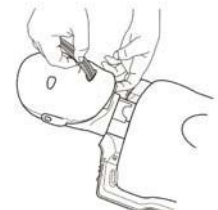

Figure 5
5. Insert the folded Lung-Bag into the mouth of the manikin (Figure 5).